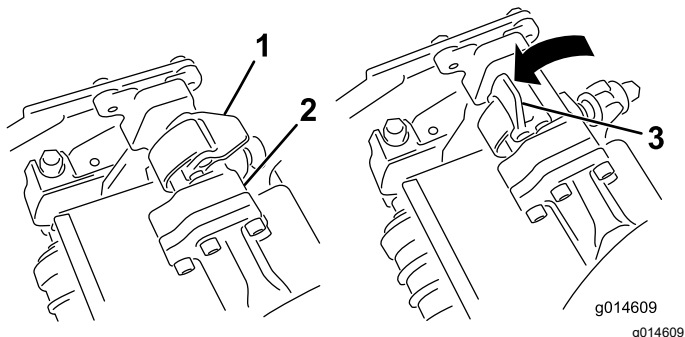
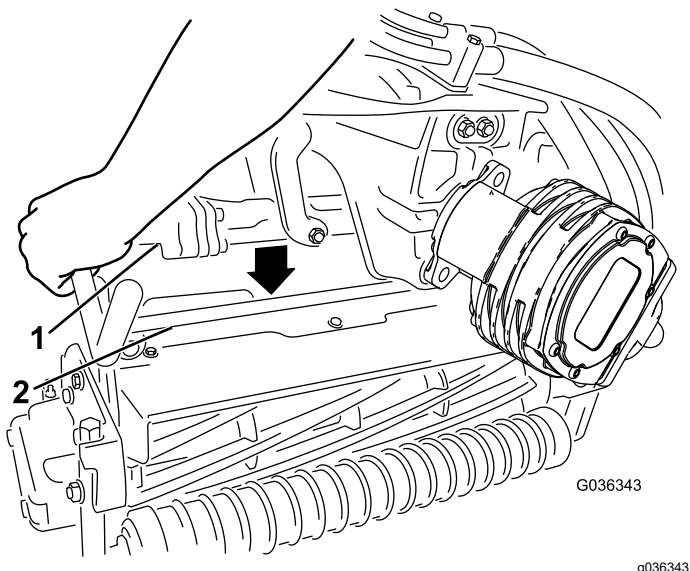

Figure 70
Figure 71
4. Open the latches on the suspension-arm bar (Figure 70) and push the suspension arm down so that the bar fits over both pitch arms on the cutting unit and ensure that the latches go underneath the cutting-unit crossbar (Figure 71).
5. Close the latches down and around the cutting-unit bar and lock them in place (Figure 70).
6. Open the latches on the suspension-arm bar of the cutting unit you are removing (Figure 70).